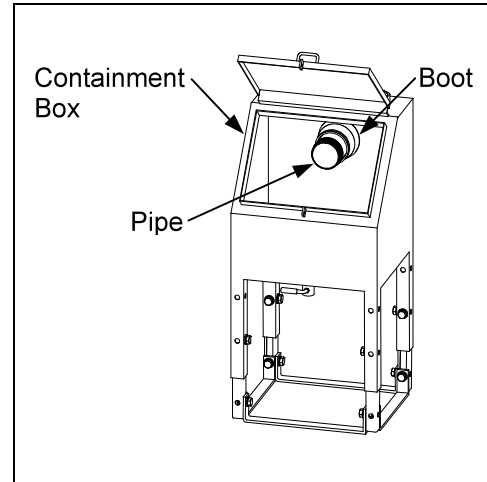

Figure 4
5. Place the spill container in the desired location and, to assure a tight fit to the pipe, tighten the stainless steel clamp on the Buna-N boot. (See Figure 4.)